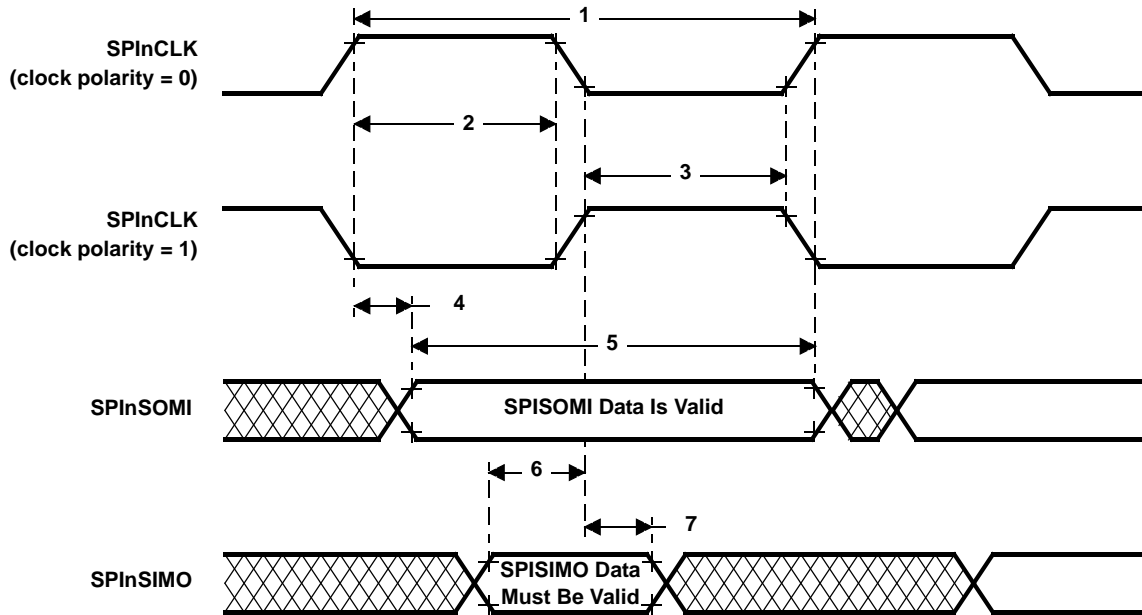

Figure 14. SPI slave mode External Timing (CLOCK PHASE = 0)
**SPIn slave mode external timing parameters (CLOCK PHASE = 0, SPInCLK = input, SPInSIMO = input, and SPInSOMI = output)(1)(2)(3)(4)(see Figure 14)**